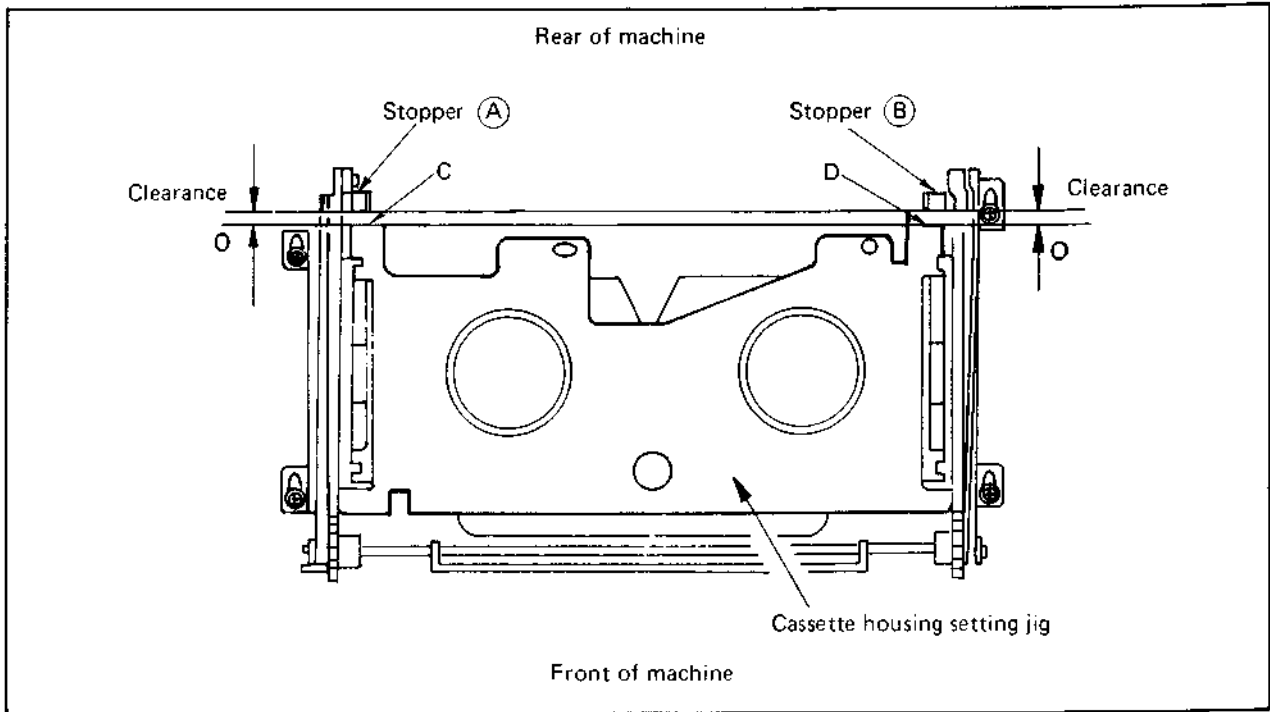
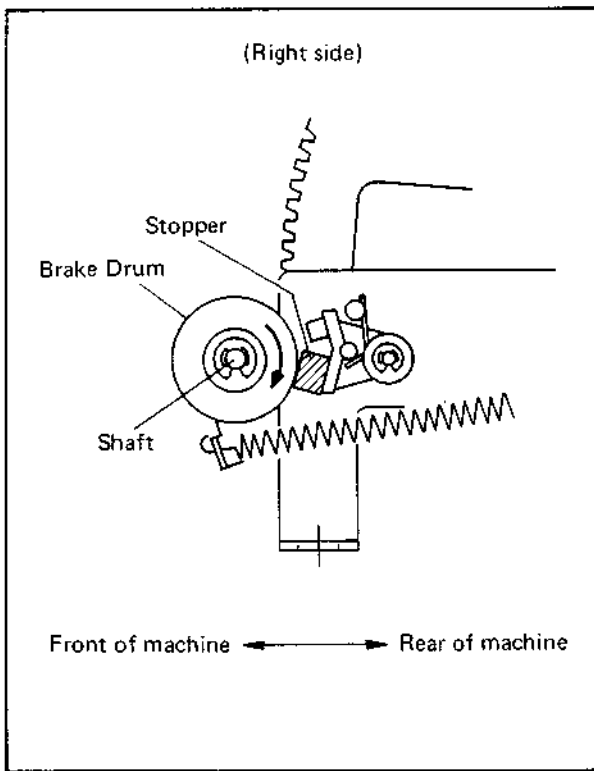

Fig. 4-5 Cassette housing setting
Fig. 4-6 Damping operation
5. Slide the housing in the forward direction so that the cassette stoppers (A) and (B) of the housing contact points C and D of the jig. (See Fig. 4-5.)
6. While applying pressure so that spacing is absent between (A) and C, and between (B) and D, tighten the 4 left and right screws firmly.
7. After tightening the screws, apply forward pressure to the jig and confirm absence of spacing at (A)-C and (B)-D.
17. Check damping operation. When the cassette housing is being lowered, the brake drum (Fig. 4-6) rotates together with the shaft in the arrow direction. However, during Eject, when the cassette housing rises, check that the stopper prevents the brake drum from rotating in the opposite direction. Perform this check for both sides.